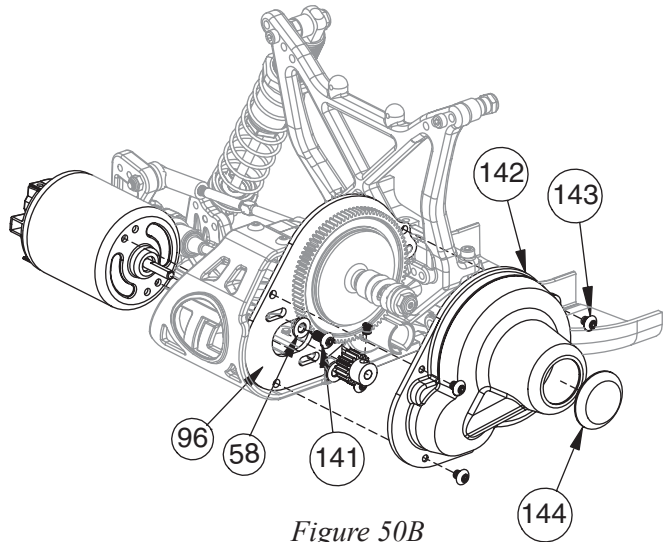

Figure 50B
- 1. Attach the motor (*not included*) to the Motor Plate (96) using two 3mm x 8mm Button Head Screws (141) and two #4 Washers (58). Do not tighten the Screws yet.
**NOTE: There are usually four mounting holes on a motor can. To install the motor, you must use two holes which are not vertical with each other as shown in Figure 50B. Choose the set of holes that will allow easiest access to the solder tabs on the motor.*